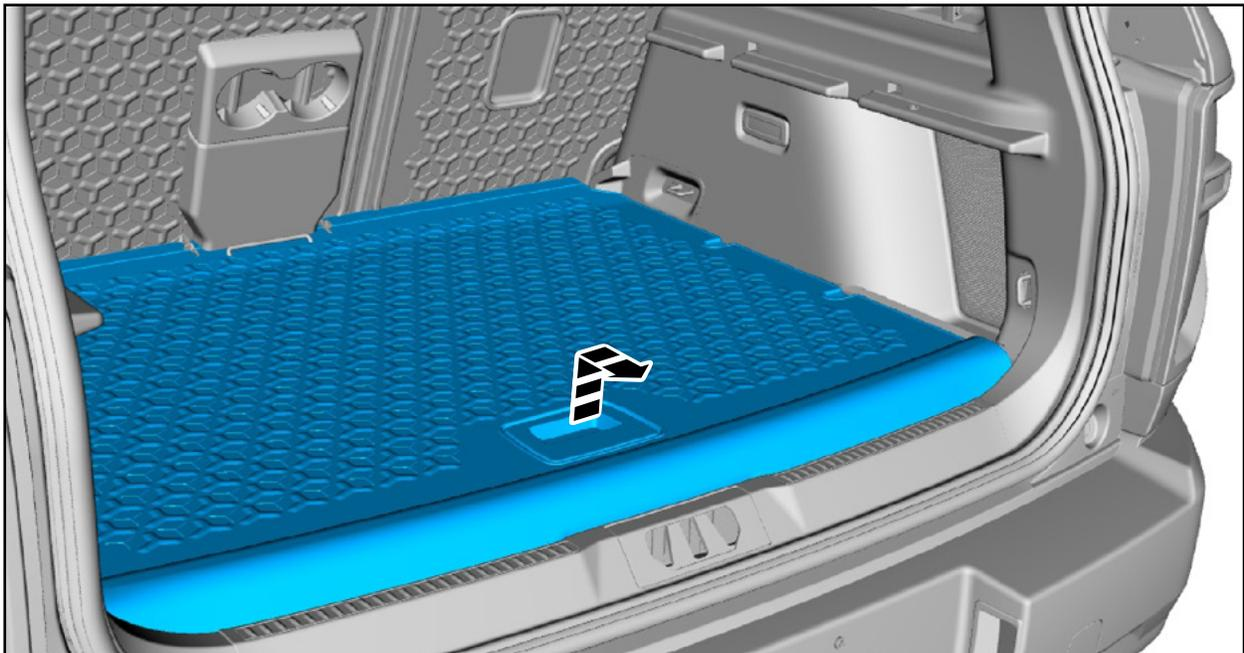

FIGURE 15
15. Remove the luggage compartment floor covering. See Figure 15.